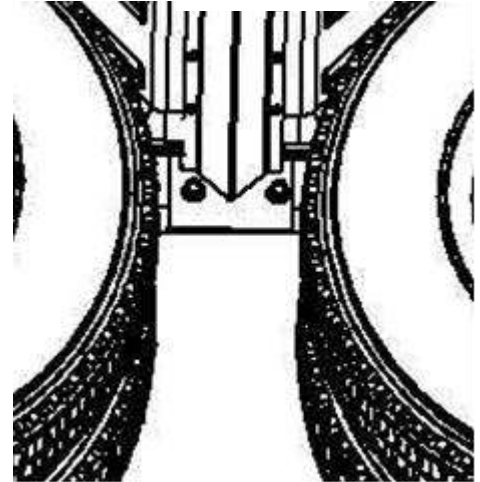

Figure 9
- A. The center bracket PB2011 will be welded to the truck frame. It is possible to bolt a plate (not supplied) to the frame and weld the brackets to that plate (Figure 9). Another option is to weld the bracket directly to the frame.